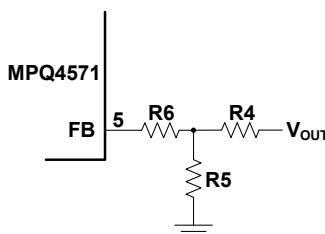

Figure 1: T-Type Feedback Network
8. The output voltage is set by the below T-type feedback network figure (see Figure 1).